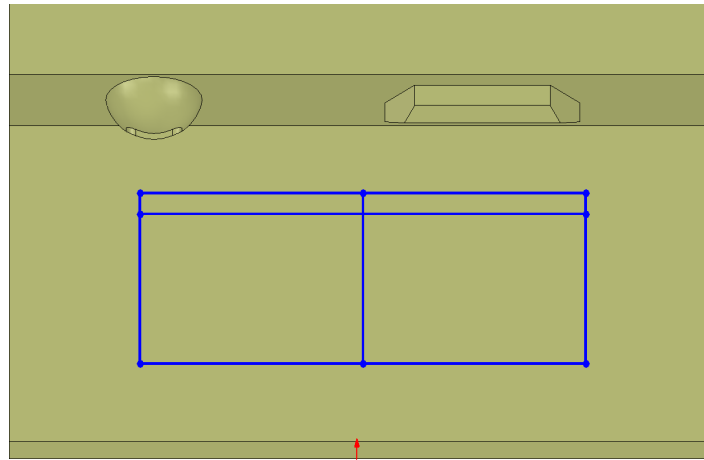

Fig. 65
Step 5. Click **Line**  (L) on the Sketch toolbar.
Step 6. Sketch **horizontal line across rectangle and a vertical line at midpoint**, Fig. 65.